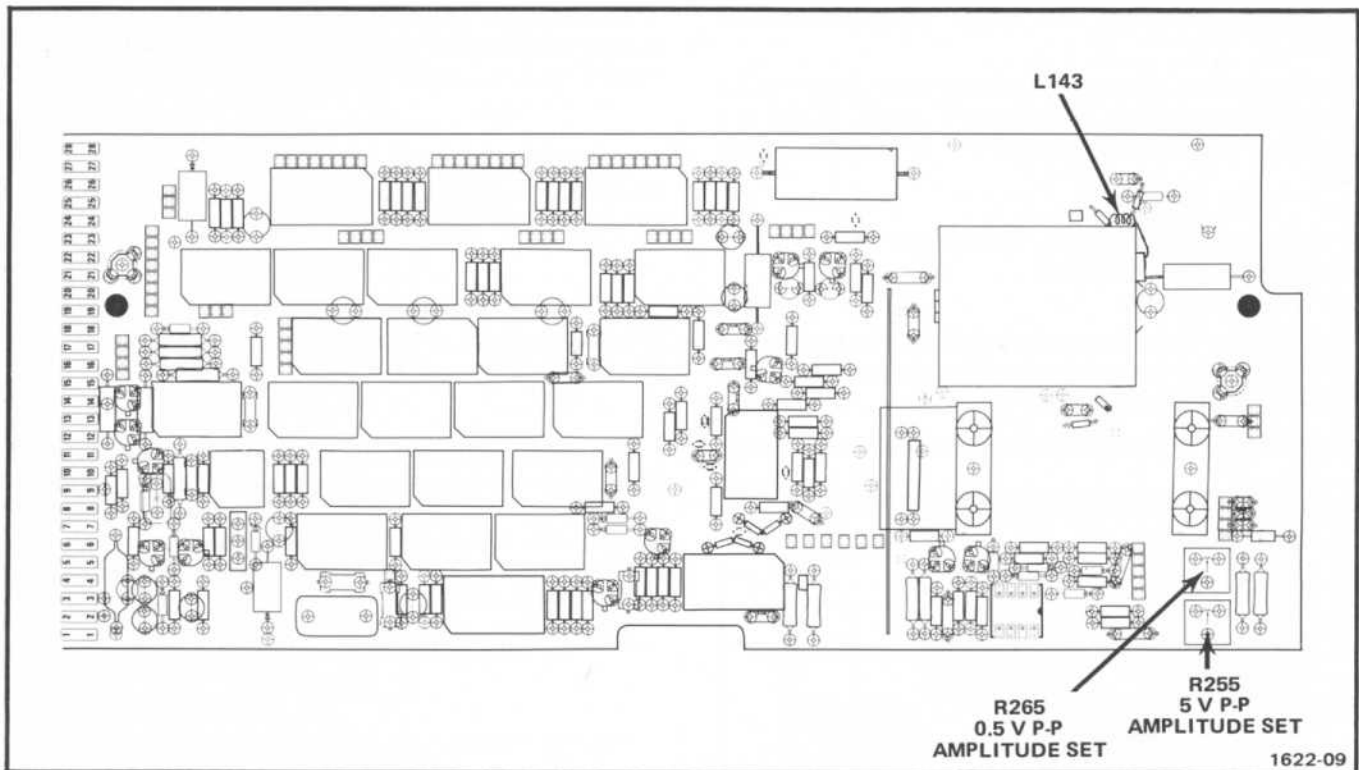

Fig. 3-2. Location of L143, 0.5 V P-P, and 5 V P-P Amplitude Set.
f. Adjust—5.0 P-P Amplitude Set, R255, so the corners of the idealized waveform are aligned as illustrated in Fig. 3-3. See Fig. 3-2 for adjustment location.
j. Adjust—0.5 V P-P Amplitude Set, R255, so the corners of the idealized waveform are aligned as illustrated in Fig. 3-3. See Fig. 3-2 for adjustment location.